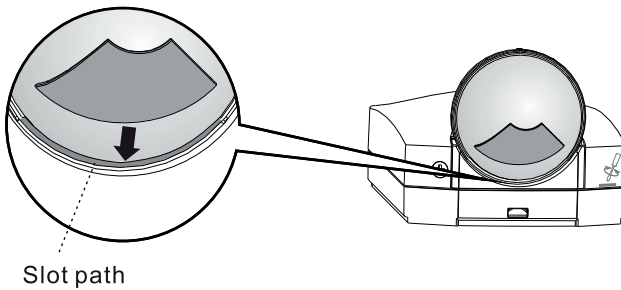
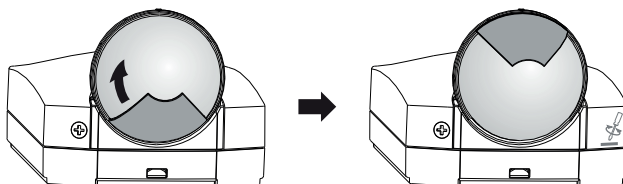

FIG.22
FIG.23
- Fix lens shield: Push the lens shield into the slot path (See FIG 22). then along the slot path to turn right or left (See FIG 23).